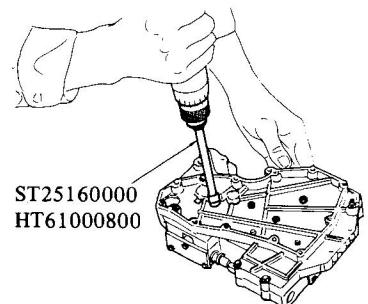

Fig. AT-108 Installing valve body
4. Install upper and lower valves. See Figure AT-108.